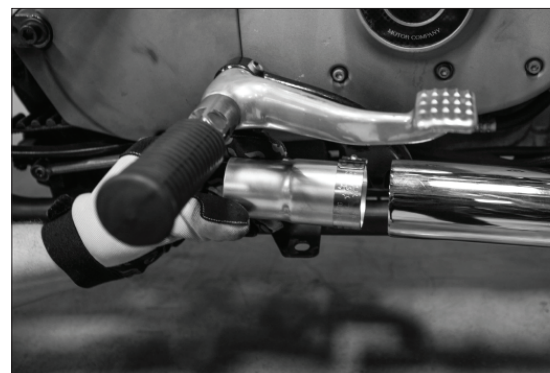

Fig. 1
1. Using the supplied muffler clamp, install one muffler adapters on each head pipe. Do not tighten the muffler clamp at this time to allow for adjustment. (Figure 1 and 2)